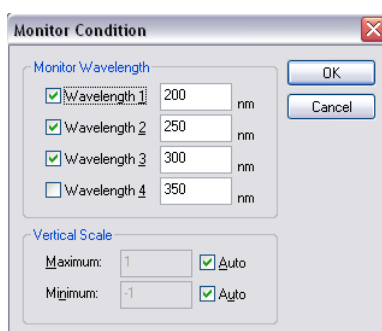

Figure 5.7 [Monitor Condition] dialog box
- (1) Select [Monitor Parameters...] - [Measure] in the [Temperature Interval Scan Measurement] window. The window of Figure 5.7 appears.